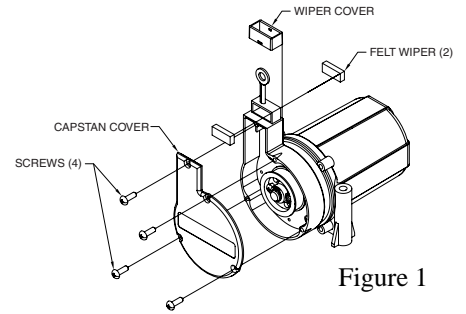

Figure 1
1. Referring to Figure 1, remove the capstan cover by removing the four attaching screws.
2. With small blade type screwdriver, unclip the wiper cover shown in Fig. 1 and remove the two dust wipers.